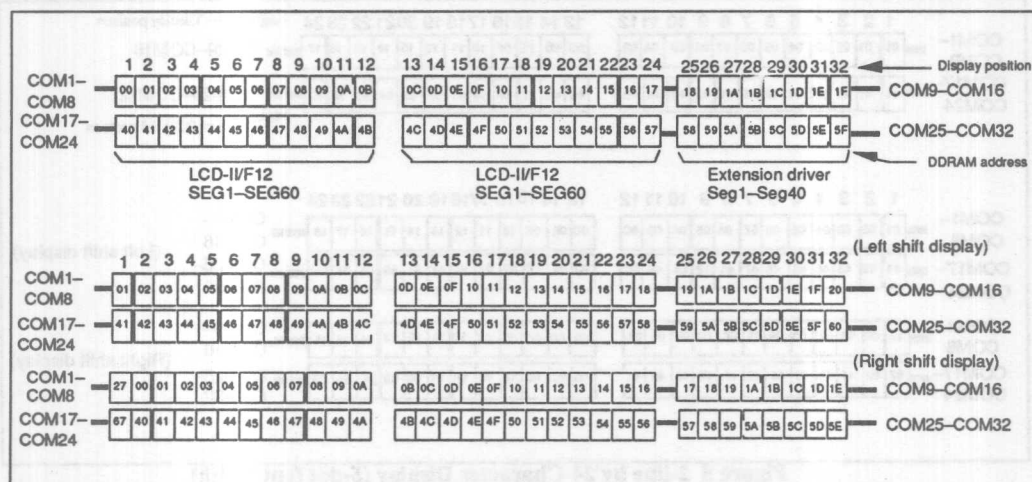

Figure 7 2-Line by 32 Character Display (5-dot font width)
- Case 2: Figure 7 shows the case where the EXT pin is fixed high and the HD66712 and the 40-output extension driver are used to extend the number of display characters to 32 5-dot font-width characters.